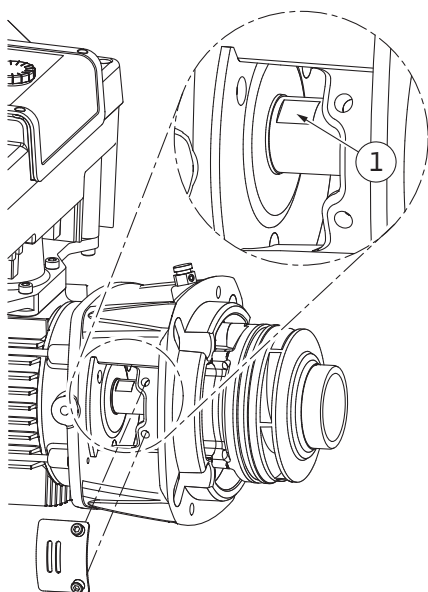

Fig. 105: Wrench flats on the shaft
14. Insert an open-end wrench 7/8 in (22 mm width across flats) into the lantern window and hold the shaft by the wrench flats (Fig. 105, Item 1). Unbolt the impeller nut (Fig. I, Item 22). The impeller (Fig. I, Item 21) is automatically pulled off the shaft.
3. Insert an open-end wrench 7/8 in (22 mm width across flats) into the lantern window and hold the shaft by the wrench flats (Fig. 105, Item 1).